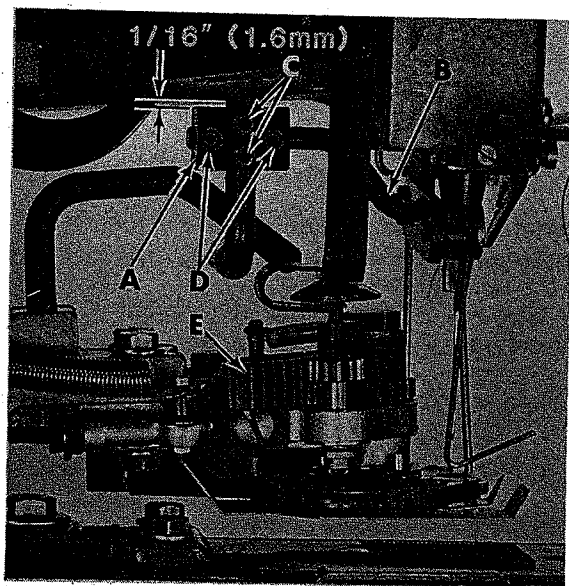
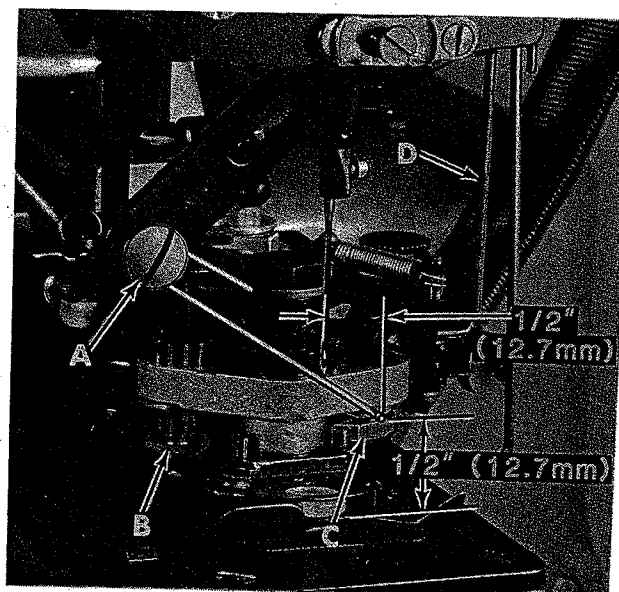

Fig. 36
Fig. 37
Engage machine into RUN POSITION and rotate the pulley in operating direction three complete revolutions. At this time, the button positioning sequence begins as the gear rack drive cam starts to move the gear rack (E, Fig. 36) forward. Continue to rotate the pulley through a complete stitching cycle to observe the following sequence of component functions related to presenting the button in position to be stitched.
The button orienting pin (B, Fig. 37) now rests on the button. The gear rack moving forward rotates the orienting pin so that it finds and enters the holes in the button. It then continues rotating the button until the holes are in position to be stitched, after the button holder rotates.
In moving forward the gear rack also engages the gear clutch that will later rotate the button holder. The button holder does not turn on the forward stroke of the gear rack since the clutch assembly inside the gear clutch does not grip the button chuck shaft when turned in this direction. The stop pins on the button holder chuck also are blocked by escapement lever (C, Fig. 37).
Upon completion of the stitching cycle as the clamp begins to lift, the orienting pin is lifted up out of the button holes to completely clear the holder. As the clamp continues to rise, wire (D, Fig. 37) trips the release spring resulting in the escapement lever (C) moving away from the stop pin on button holder chuck.
Machine is in STOP POSITION and clamp is raised. Bracket (A, Fig. 36) should be 1/16 inch (1.6 mm) from the casting. Drive rod (B) viewed from the front, should be positioned so that the angled portion is vertical. It must not contact either end of the slot when wiper is at the left or right of the needle.
Engage the machine into RUN POSITION so that the clamp is down and the thread wiper is to the right of the needle. The thread wiper wire, at the bend, should now be located 1/2 inch (12.7 mm) to the right of the needle and 1/2 inch (12.7 mm) above the top cover (Figure 37).
Loosen screws (C, Fig. 36) and position bracket (A) to the required dimension. Tighten screws (C). Move drive rod (B) by loosening screws (D). With clamp down, position the wiper wire as described by loosening screw (A, Fig. 37). Tighten screws securely.